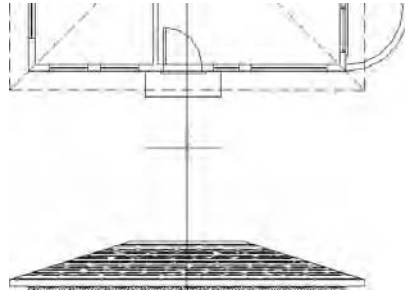

FIGURE 10.3: The text cursor sits on the guidelines.
10. For the rotation, press *↵* to accept the default angle of 0°. A flashing I-shaped cursor superimposed over a narrow box will be positioned at the intersection (see Figure 10.3).